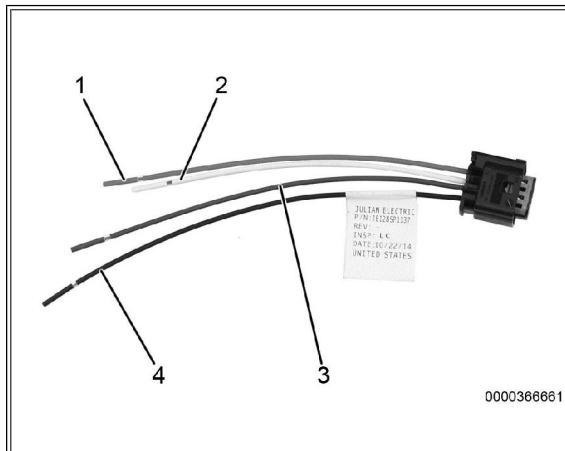

Figure 9: Pigtail
33. Prepare existing PT jumper harness by trimming wire lengths to properly align to new PT sensor connector pigtails (Figure 9, Items 1-4).